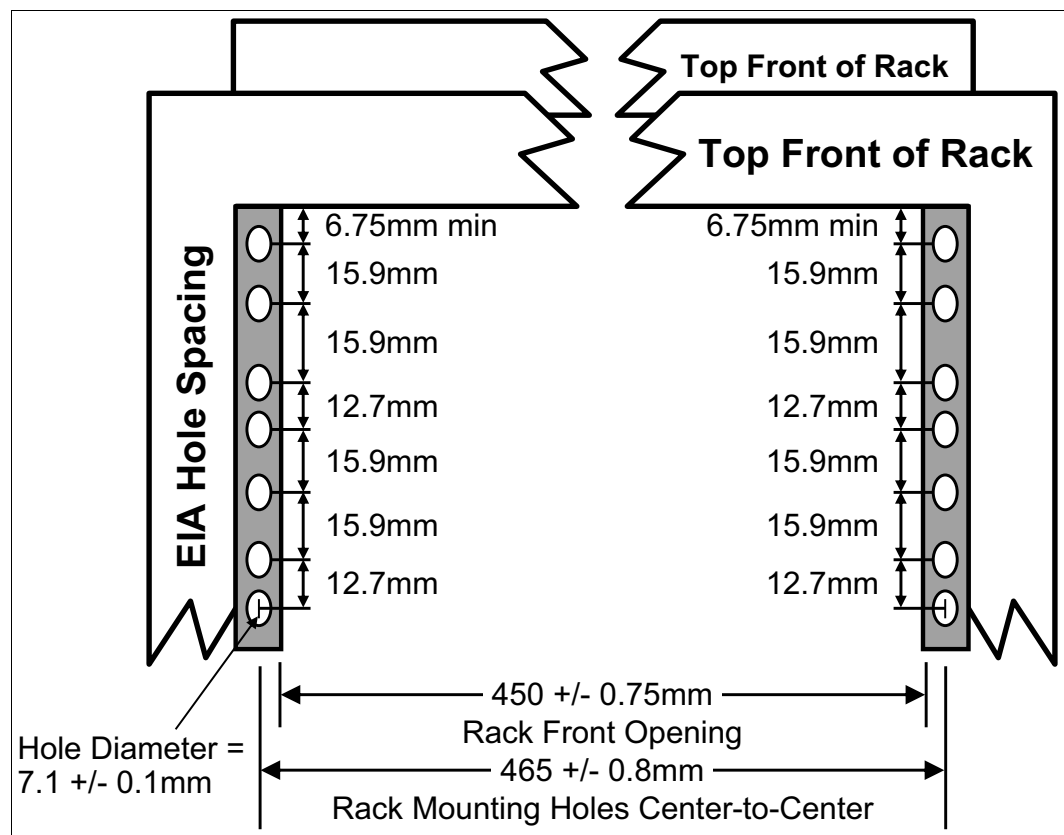

Figure 1-8 Top view of rack specification dimensions (not specific to IBM)
- The front rack opening must be 451 mm wide ± 0.75 mm (17.75 in. ± 0.03 in.), and the rail-mounting holes must be 465 mm ± 0.8 mm (18.3 in. ± 0.03 in.) apart on-center (horizontal width between the vertical columns of holes on the two front-mounting flanges and on the two rear-mounting flanges). Figure 1-8 is a top view showing the specification dimensions.